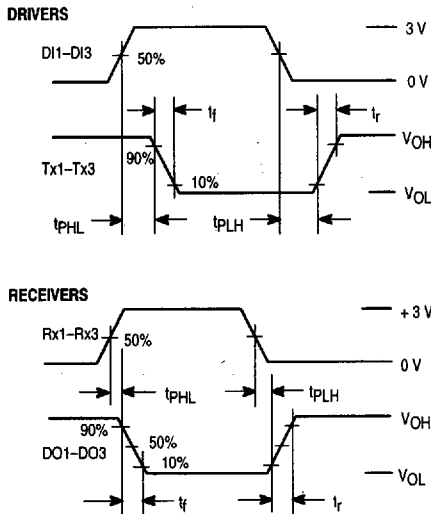

Figure 2. Switching Characteristics
**SWITCHING CHARACTERISTICS** ( $V_{CC} = +5\text{ V} \pm 5\%$ ,  $T_A = -40$  to  $+85^\circ\text{C}$ ; See Figures 2 and 3)